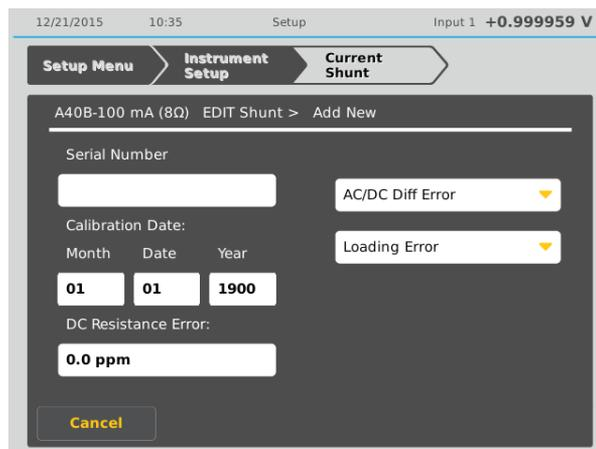
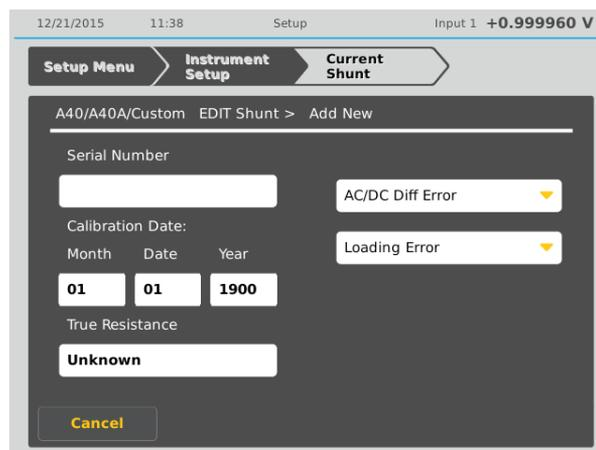

Figure 3. A40B properties
Figure 4. A40/A40A/Custom properties
3. **DC resistance error (A40B) or true resistance (A40/A40A/custom shunt)** – For an A40B, this is the deviation in ppm from the nominal resistance value of the current shunt (see Figure 3). For A40, A40A, or custom shunts, this is the true (commonly referred to as “nominal”) resistance of the shunt (see Figure 4). If the true resistance is known for the current shunt, it should be entered into the field, otherwise it should be left as “unknown”. *Note: Without the true resistance, the current readout will not be*